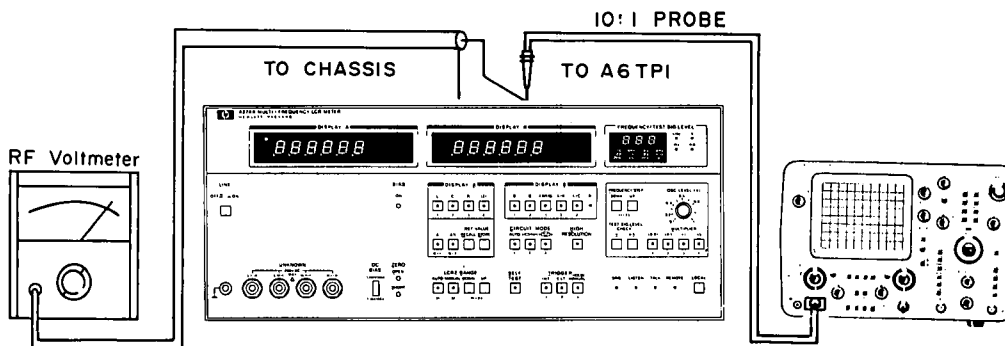

Figure 5-6. A6 Oscillator Adjustment.
c. Connect 10:1 probe to A6TP1 and ground lead to 4274A chassis as shown in Figure 5-6.